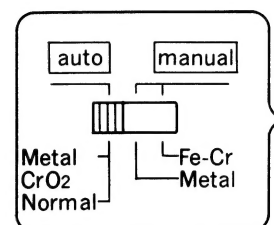

Fig. 4
- When the tape used is provided with metal tape mode detection hole, set the tape selector located at the back of the set to auto position (fig. 4).
- Set the tape selector located at the back of the set to auto position (fig. 4).
- When the tape used is provided with CrO2 tape mode detection hole, set the tape selector located at the back of the set to auto position (fig. 4).
- When the tape used is not provided with the CrO2 tape detection hole, set the tape selector to auto position as shown in fig. 4, and pull out the 6 pin socket-Ⓜ, and short-circuit the terminal of the 6 pin post-Ⓜ as shown in fig. 7, then the circuit is set to CrO2 mode.